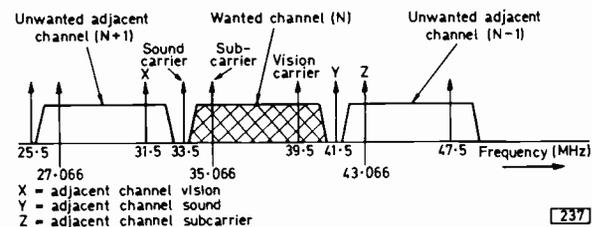

Fig. 5: The principle adjacent channel signals at i.f. Note reversal of the channel numbers because of the tuner mixing process.
The rejection frequencies in the i.f. passband are those due to adjacent channel transmissions. The principal ones (Fig. 5) are the adjacent channel vision (X) at 31.5MHz ($39.5-8$), the adjacent channel sound (Y) at 41.5MHz ($33.5+8$) and the adjacent channel subcarrier (Z) at 43.066MHz ($35.066+8$). Rejection of the latter can be done in conjunction with general rejection of all Band I pickup from about 43MHz upwards. All other adjacent channel components